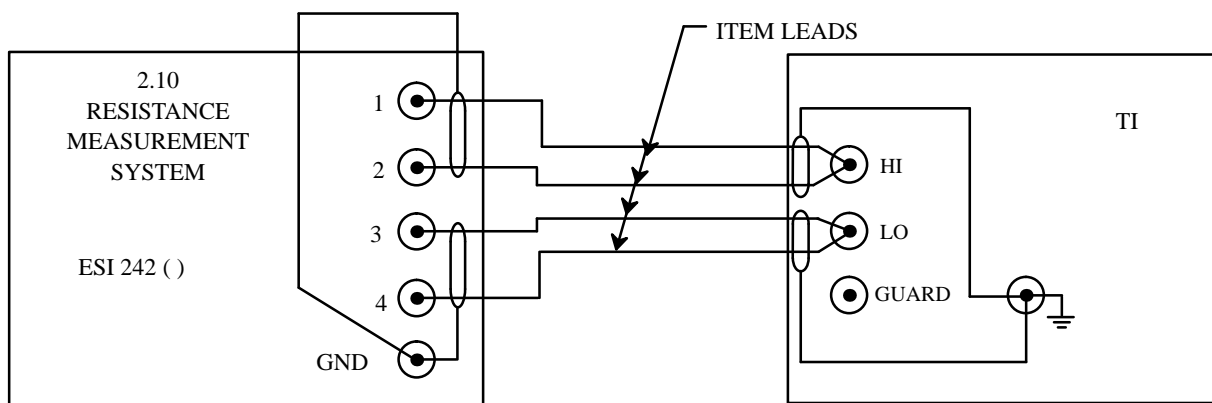

Figure 7. Resistance Test Configuration
4.8.1 Using the leads specified in item 2.4.5, connect the TI to the resistance measuring system as shown in figure 7.